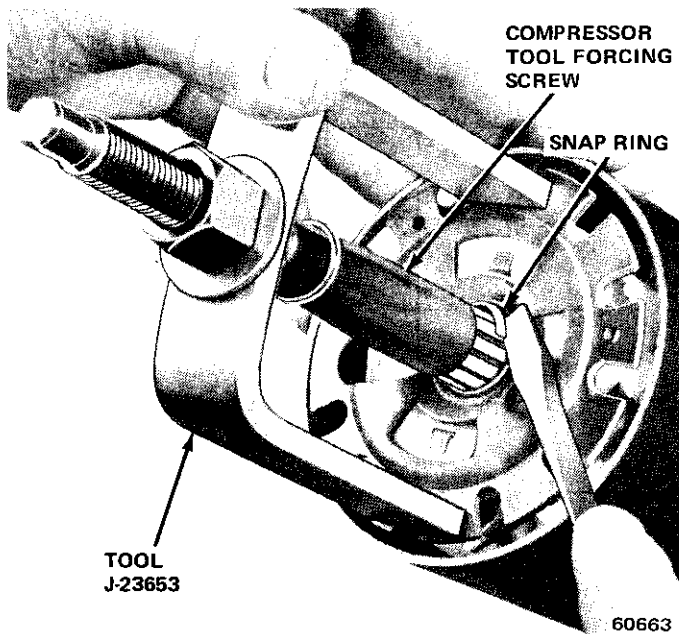

Fig. 2J-6 Steering Shaft Snap Ring Removal
- (b) If shaft has American threads, use tool J-23653 as is to compress lockplate and unseat snap ring (fig. 2J-6).